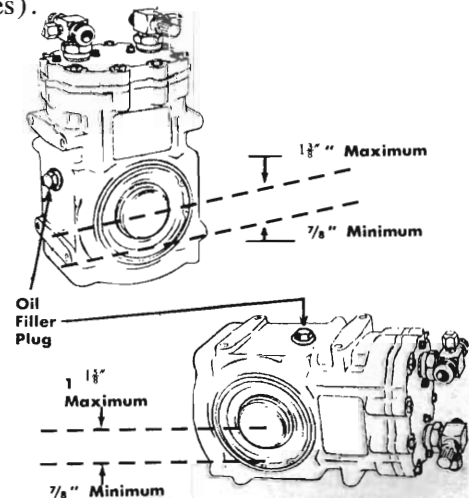

Fig. 37 - Compressor oil level diagram (Tecumseh Compressor)
'O' rings and fittings must be in good condition. The slightest burr or foreign material may cause a leak. 'O' rings and fittings *must* be coated with refrigerant oil to allow the connections to seat squarely and to be tightened evenly to the proper torque. Fittings which are not oiled with refrigerant oil are almost *sure* to leak (Fig. 37). The use of
(1) Inspect the approved replacement compressor refrigerant oil level with a suitable dipstick (see Fig. 37).
(2) Install the magnetic clutch coil support onto the compressor—Tighten screws to 85-120 lbs. in.
(3) Carefully position the "non-rot" drive key into crankshaft keyway.
(4) Install the pulley assembly *carefully* to the crankshaft and secure with a new retaining bolt and special washer. Tighten screw to 15-20 lbs. ft.
(5) Position the compressor on the engine brackets and install the 7 mounting screws. Tighten screws evenly to 14-17 lbs. ft.
(6) Readjust the drive belt tension and reconnect the clutch control wire.